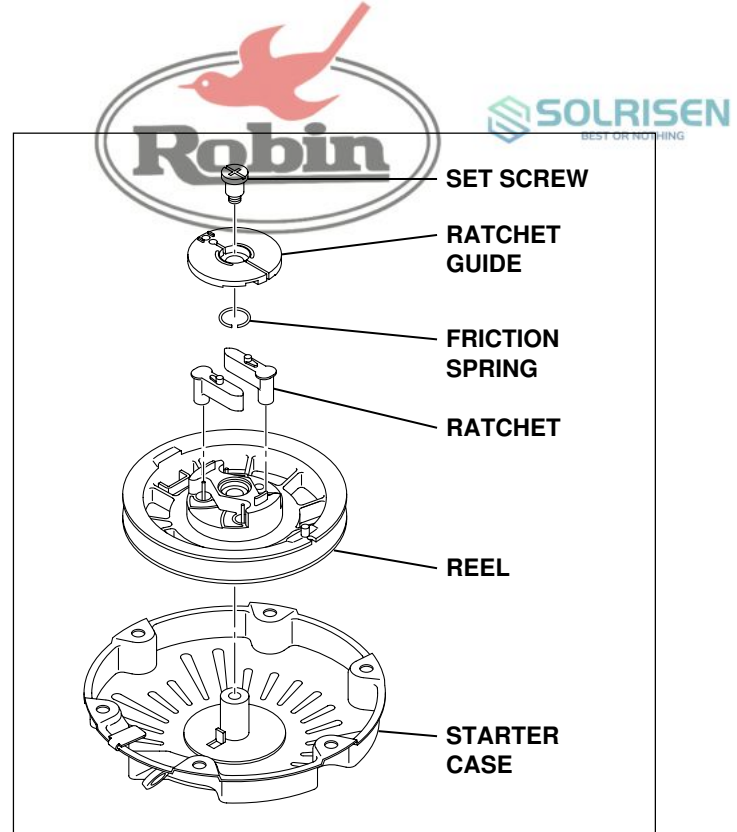

Fig. 9-2
- (2) Setting the attachments off (Fig. 9-2)
- (3) Setting the reel off (Fig. 9-2)
- 3 : In case the spring in the reel is close to pop up, redo the steps of (3)-1 and (3)-2 again.